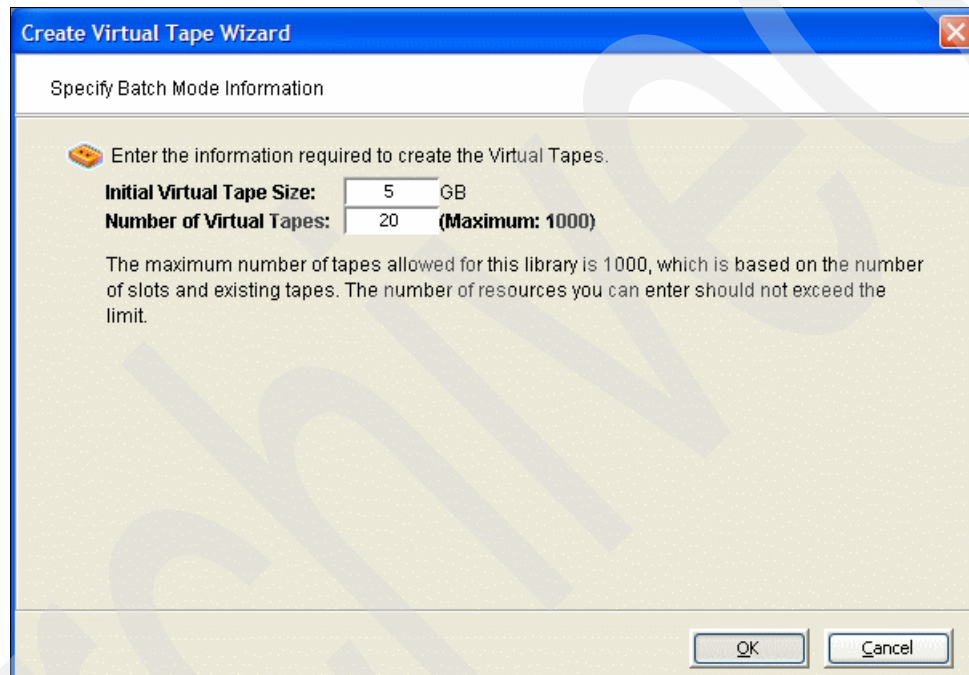

Figure 6-45 Cached virtual library creation: specify the number of new virtual volumes
12. In the Specify Batch Mode Information panel (Figure 6-45), you can override default virtual tape attributes. Click **OK** to create the virtual tape volumes.